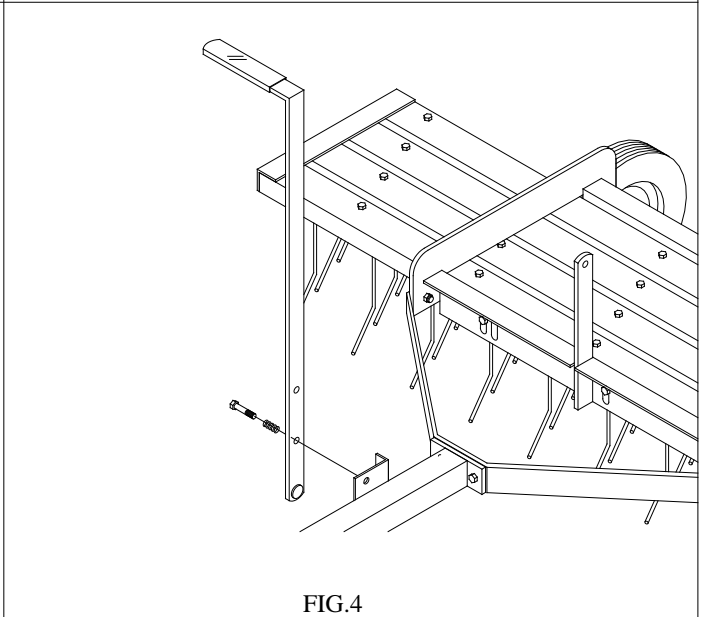

FIG. 4
4. Bolt the Lift Handle (E) to the drawbar, (D) with the 5/16-18 x 1 1/2" HHC, Spring (K), and lock nut as illustrated. **Fig. 4**